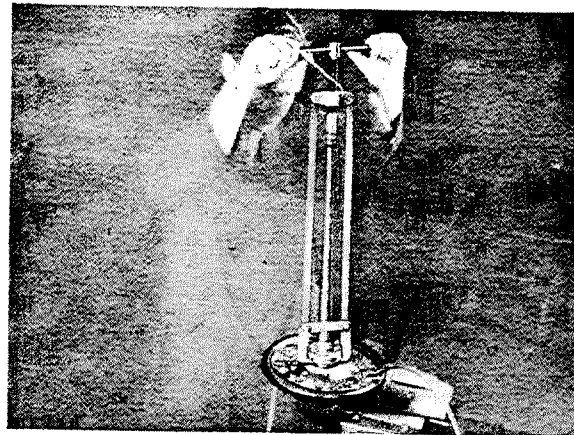

Fig. H 3/14
14. Free slotted nuts on rear axle shafts and unscrew with nose wrench 136 589 09 07. Pull grooved collar bearing with puller 136 589 20 33 (Fig. H 3/14).